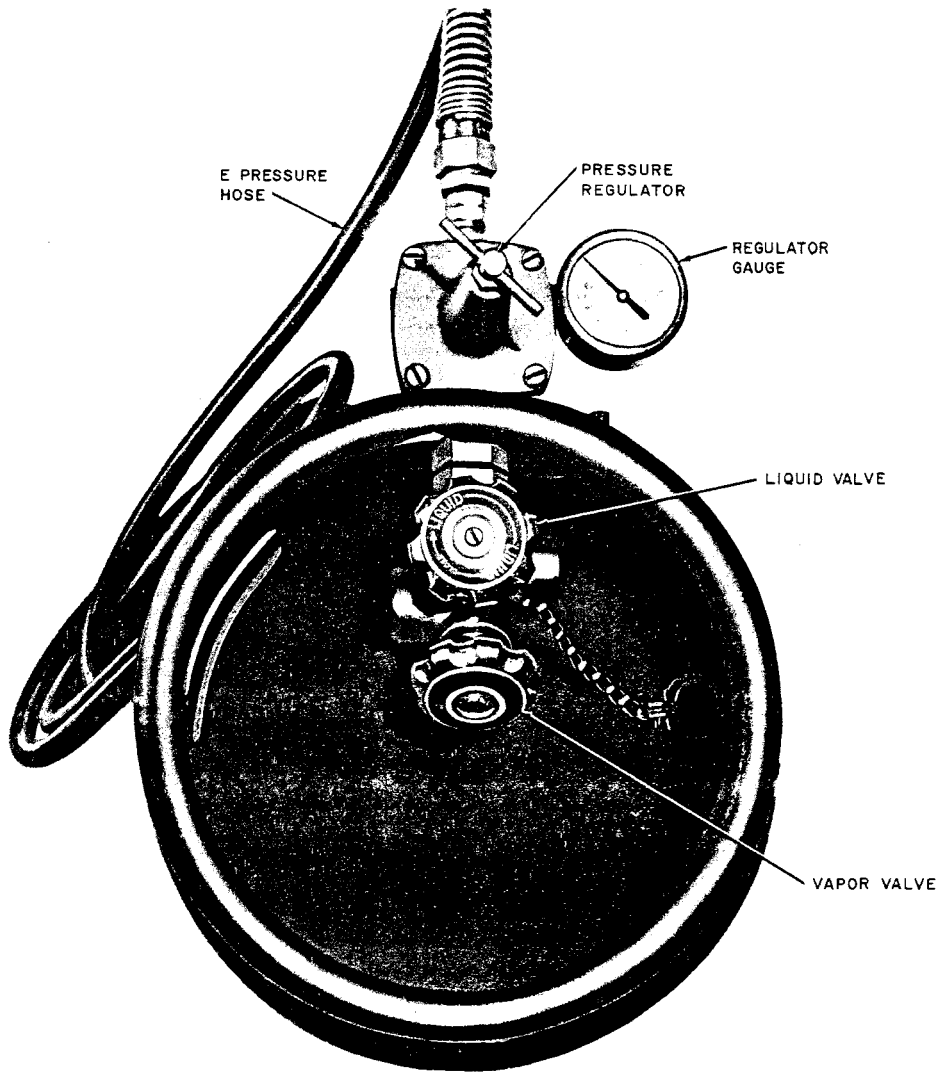

Fig. 10—B or C Propane Cylinder with Dual Valve
5.01 If the engine will not start check the controls of the propane cylinder. The vapor valve should be open and the pressure regulator set at 45 psi. If a dual valve is used, the liquid control valve should be closed (Fig. 10). If the engine still will not start, return for repair in accordance with local instructions.